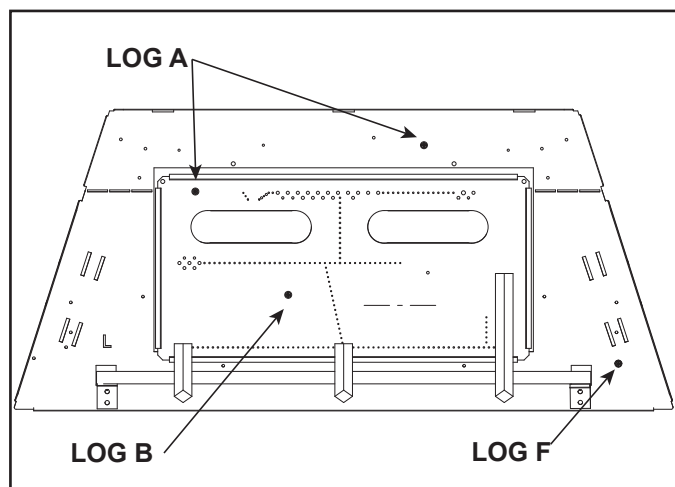
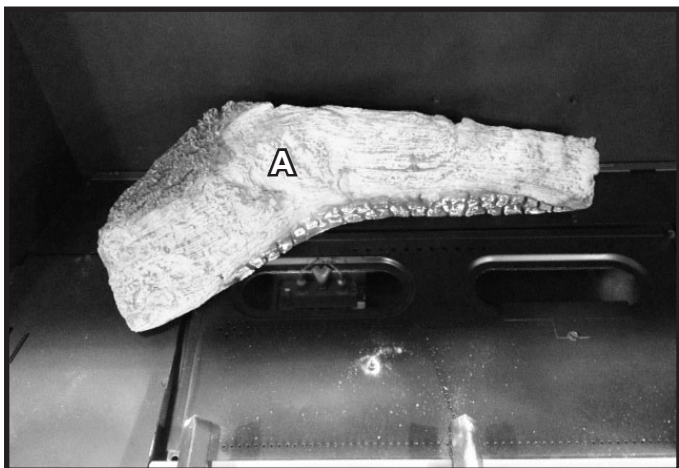
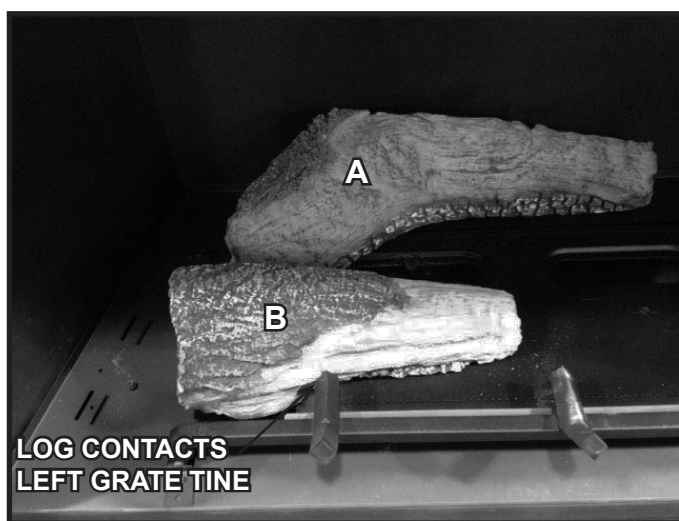

Figure 4. LOGSDBDV36 Log Pin Locations
Figure 5. Log A Installed
Figure 6. Log B Installed
1. **(LOG A):** Locate the two pin holes on the bottom of Log A. Hold the log so that the flat spot is facing the rear of the appliance and the pin holes are facing the base pan. Place Log A over the two pins referenced for Log A in Figure 4. Refer to Figure 5.
2. **(LOG B):** Locate the pin hole on the bottom of Log B. Place pin hole on Log B over the pin referenced for Log B in Figure 4. Hold the log over the pin and rotate the left side of the log until it contacts the left grate tine. See Figure 6.